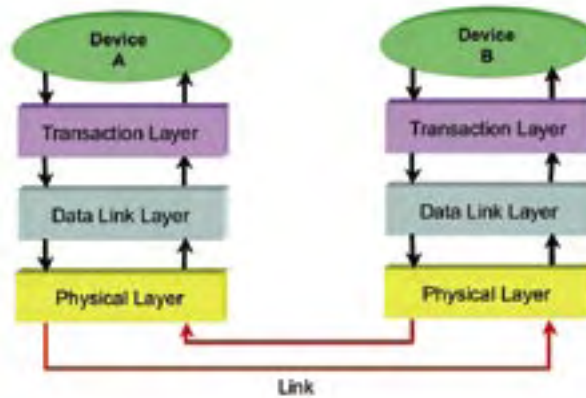

Figure 1
The PCI Express protocol stack is shown in Figure 1. In addition to a well-defined robust protocol stack, PCI Express supports QoS through the use of eight Traffic Classes (TC), eight Virtual Channels (VC), mapping of TCs on VCs, and VC arbitration schemes.